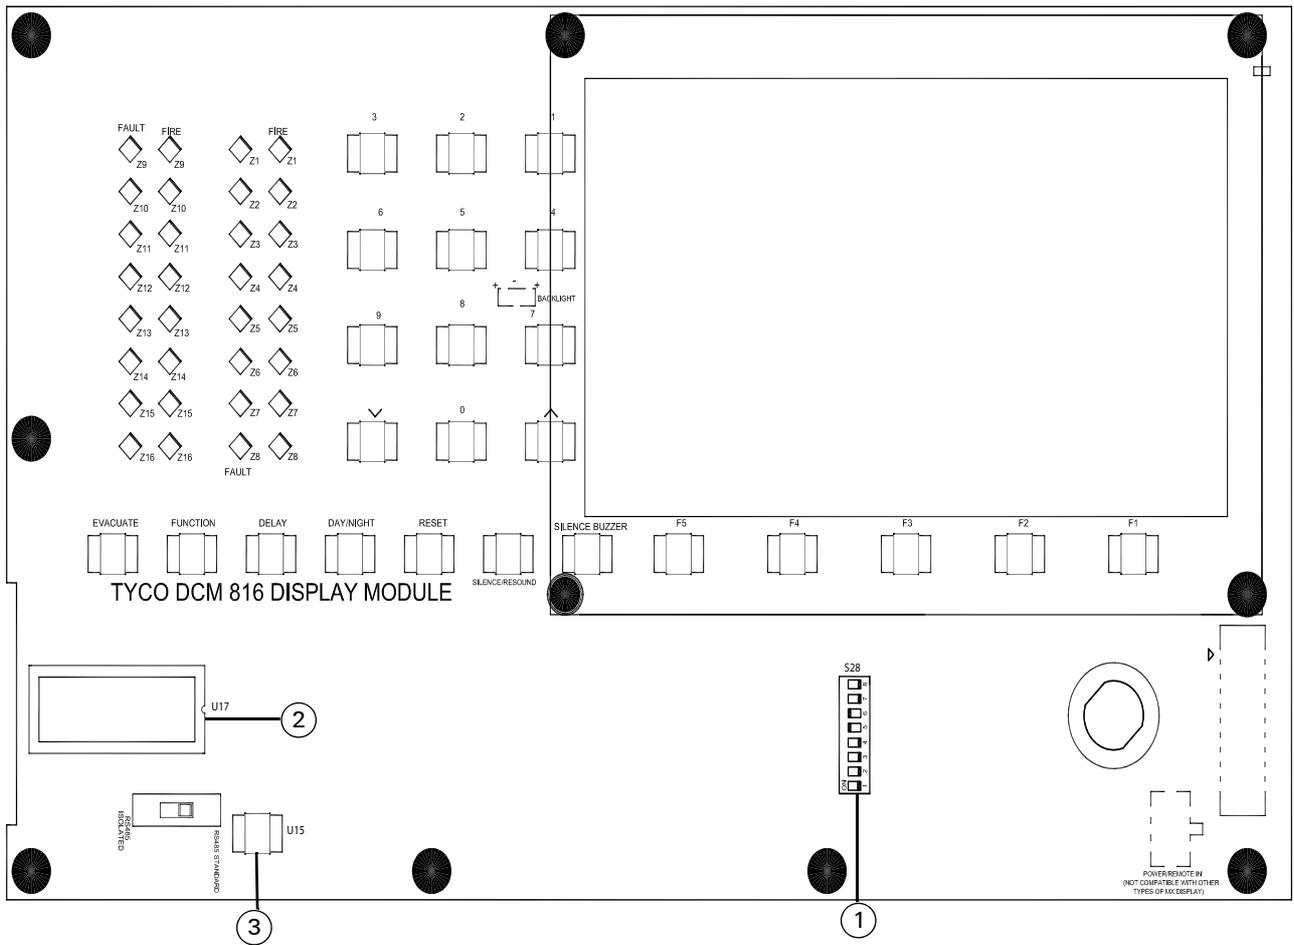

Fig. 24: S28 Position - DCM832R
- For a DCM832R, refer to Fig. 24. There is no circuit board label.
- 8 If the Processor Fault Sensing option is required, set S28-8 to ON (See item 1 in Fig. 24).